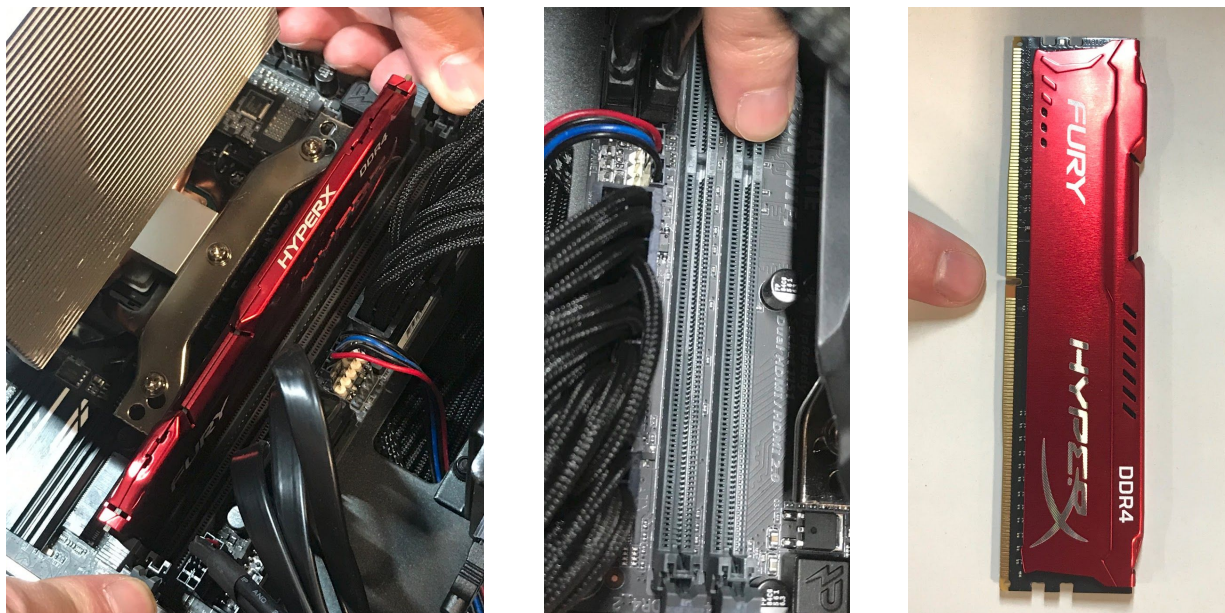

Fig. 21: Accessing the RAM release clips (left). Placement of the RAM notch on the motherboard (middle) and on the RAM stick (right).
3. Press simultaneously on each clip on either side of the RAM stick (fig 21 above). These clips will release the RAM stick and lever it out of it's slot on the board.